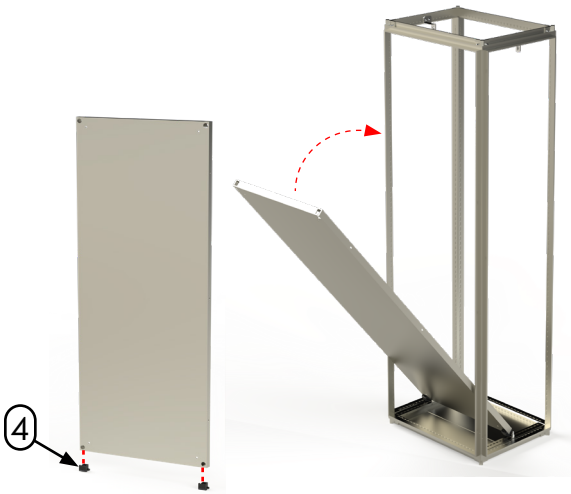

Figure 2
- **Important:** Ensure the flat side faces the door opening (Figure 2).
- Stand the panel upright so the conic pins insert into the sliders and the subpanel makes contact with the top brackets (Figure 2).
Install the two subpanel sliders into the square cutouts on the bottom of the subpanel. Rotate the subpanel and slide it along the rails until it makes contact with the conic pins. Lift and orient the subpanel vertically to engage with the top brackets (Figure 2).